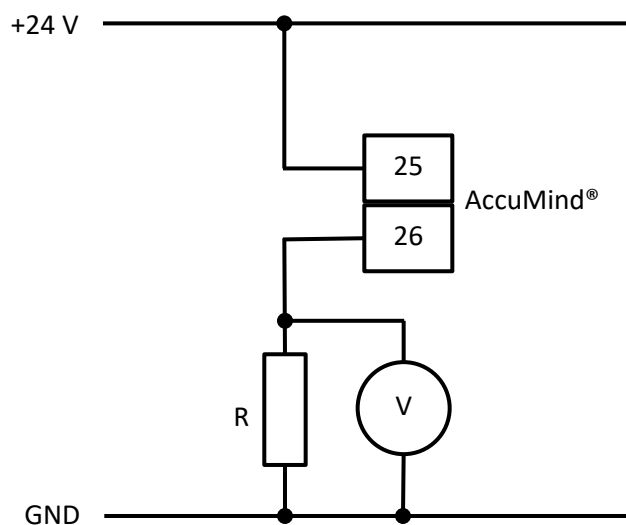

Figure 16: Connection recommendation for 1st electronic relay
The AccuMind® offers two electronic relays/switches. These are used, for example, for the output of status signals or as frequency/pulse outputs. The following applies to an AccuMind® disconnected from the supply voltage independently of the parameterization: S1 is open (NO) and S2 is closed (NC). For the parameterization of the electronic relays see 9.2.4. Figure 16 shows a connection recommendation for the 1st electronic relay. The resistance R should be 5 to 10 kΩ. The 2nd electronic relay is connected in the same way.